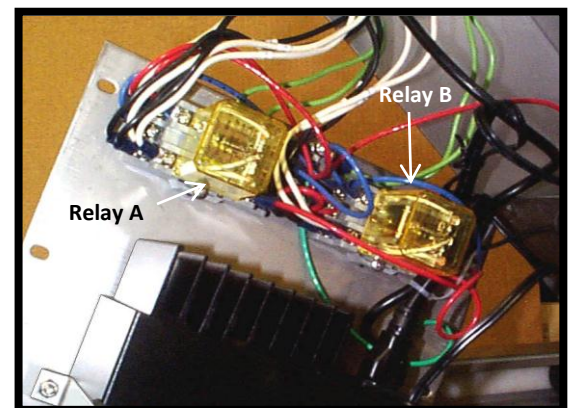

Figure 18: 2 Relays on Battery Charger Cover
1. Pull out relay A (Figure 18).